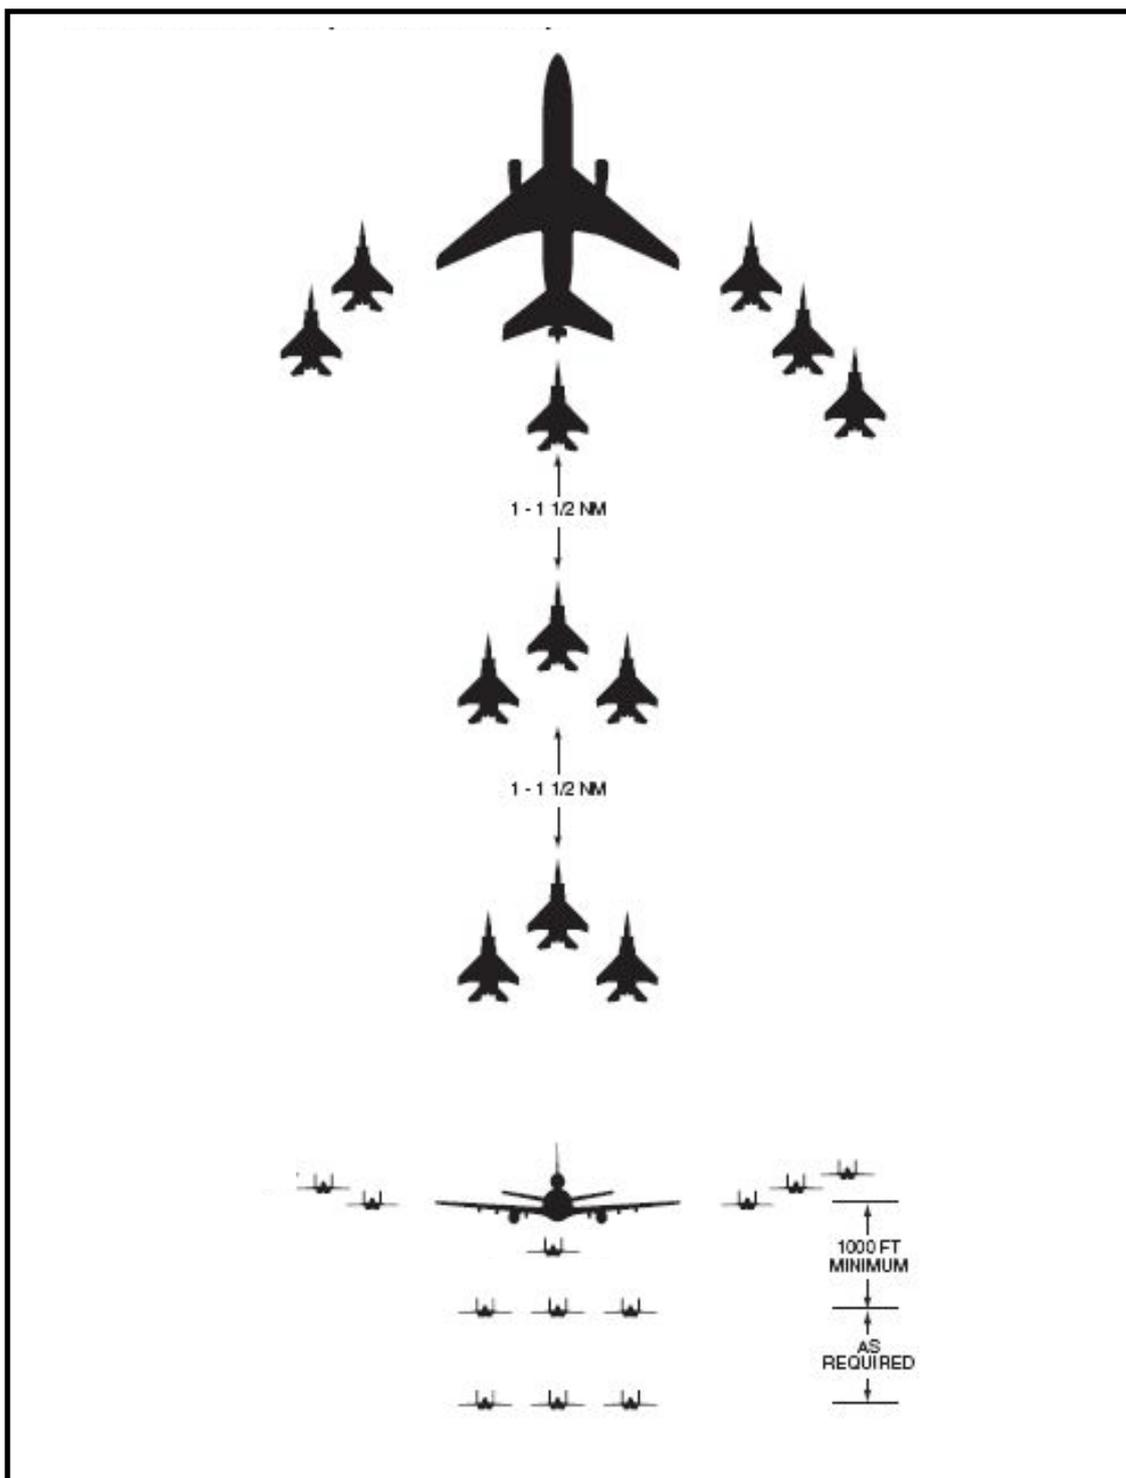
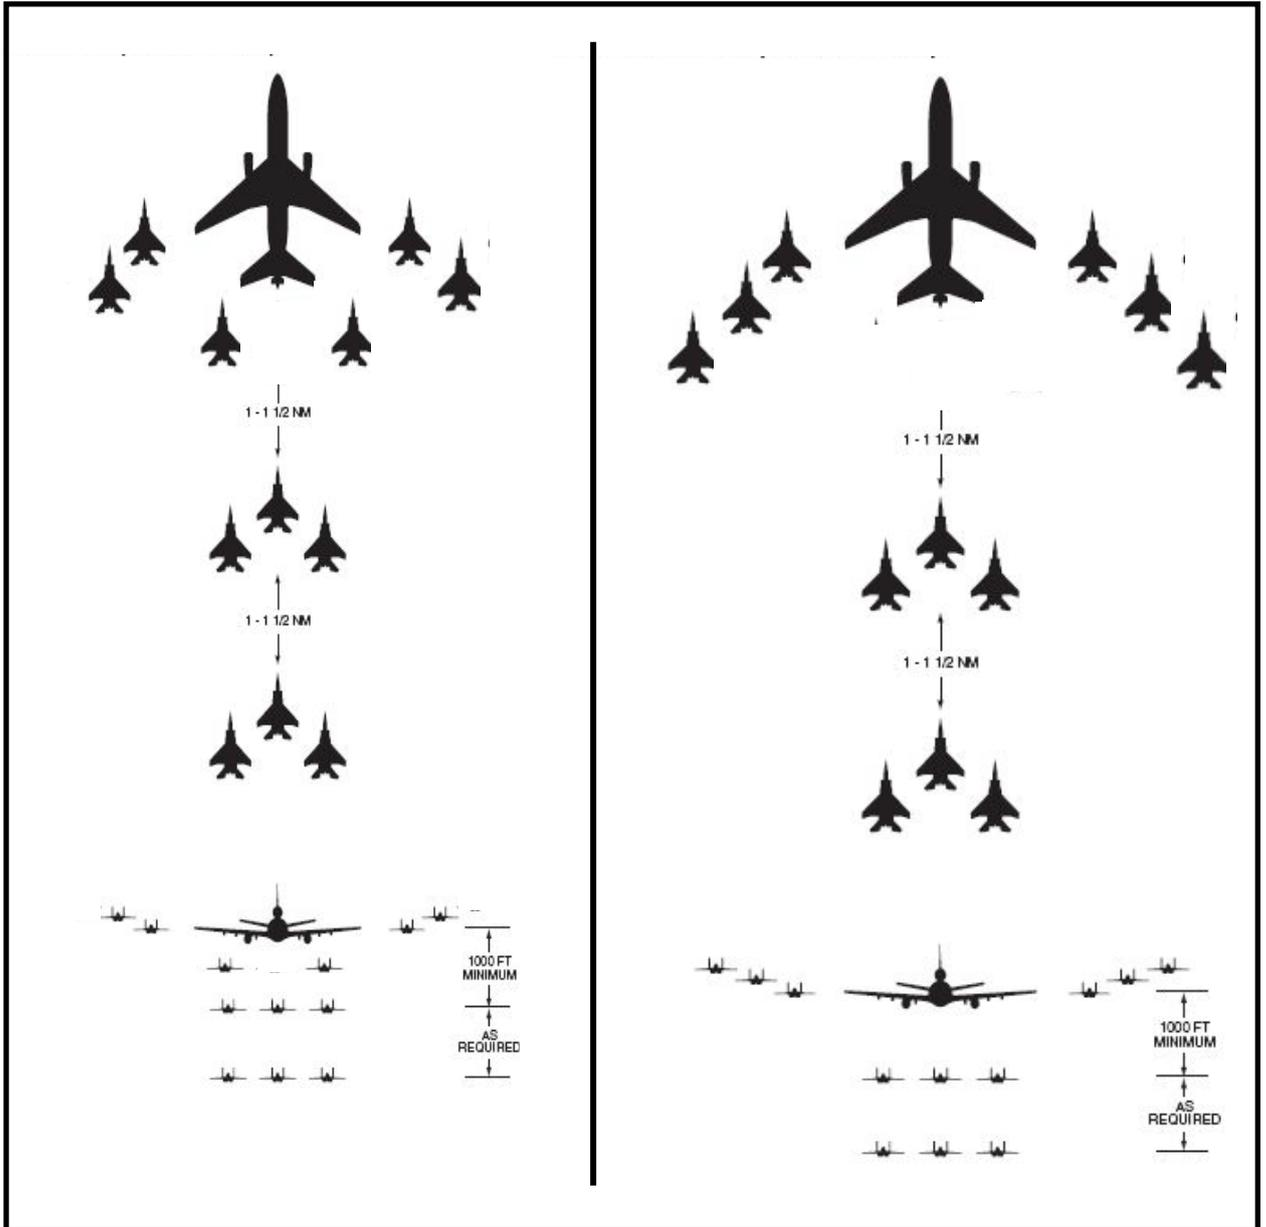

Figure 2-6. Night/IMC Formation Suitable for Both Boom and Centreline Hose Receivers
Figure 2-7. Night/IMC Formations Suitable for Dual Probe and Drogue Receivers
- (c) **Receivers in Trail.** When the wing positions are full (to include those positions reserved for receivers astern of, or in contact with, the fuel delivery system), other aircraft/elements should be directed to assume a trail position. The first element should be 1 to 1½ nm behind the tanker and stepped down 1000 ft below their tanker's altitude. The second trail element should be 1 to 1½ nm behind the first element and stepped down 1000 ft below the first element's altitude, but see para. 2.29.d.(2) for ATC considerations.
- (d) **Large Formation – Receiver Distribution.** During pre-mission briefing for large formations, the tanker and formation lead should agree on a distribution plan for the receivers around the tanker in the event of night/IMC. Whilst numerous factors will help determine the most appropriate plan for a specific mission, Figure 2-6 illustrates one possible formation suitable for both boom and centreline hose receivers. Figure 2-7 offers a suggested formation for twin probe and drogue operations. In both cases, receivers are shown in the astern position; normally when not refuelling, these receivers will be positioned on the tanker's wing.
- (3) **Additional Receivers – Joining (Night/IMC).** In night and/or /IMC conditions, additional receivers should not be cleared to join the tanker when 3 receivers are already in both the Echelon Left and Echelon Right positions. Where less than 3 receivers are on a wing, additional receivers may be cleared to join that wing so long as they:
- (4) **Tanker Management of Receivers.** A large formation of up to 12 receivers against one tanker requires extensive coordination between the tanker and receiver formation lead. This is because there will be almost continuous receiver manoeuvring as receiver elements completing refuelling move aft and trailing elements move forward to the tanker's wing. To expedite this movement, the tanker should use the following procedures when directing the receiver aircraft.